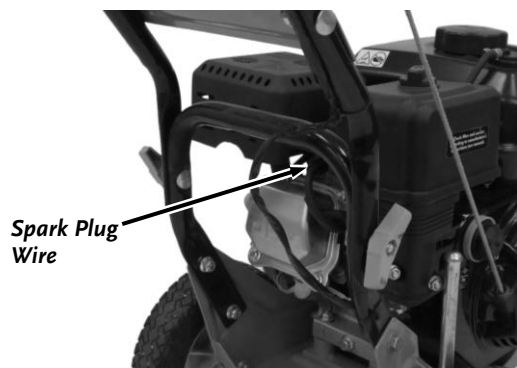

Figure 26
1. Clean the area around the Spark Plug and Wire (**Figure 26**).